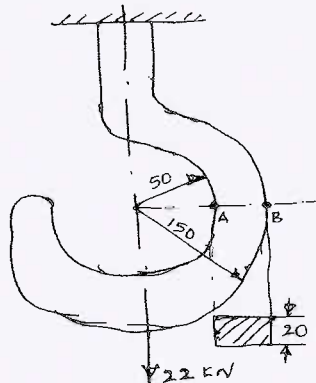

Fig.Q1(a)
- 1 a. Plot the stress distribution about section A-B of the hook as shown in Fig.Q1(a).